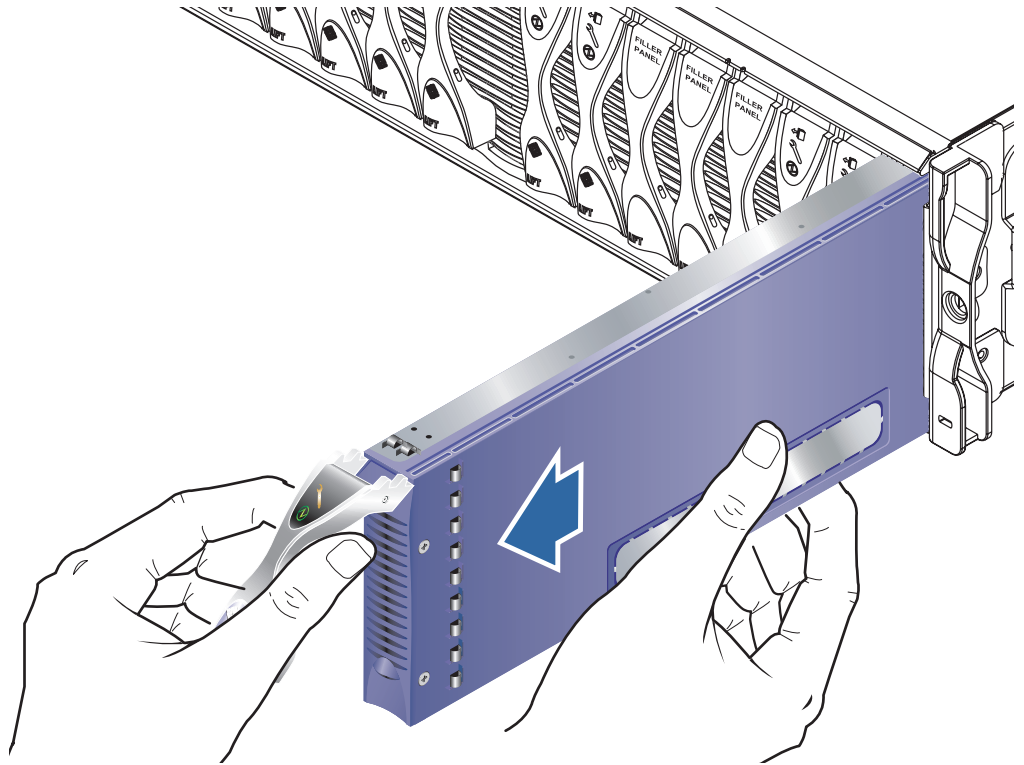

FIGURE 4-4 Removing the Blade
3. Pull the lever to remove the blade from the system chassis (FIGURE 4-4).